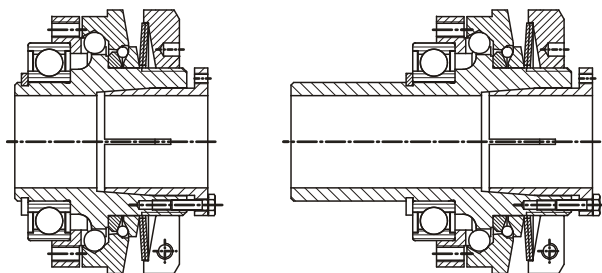

Fig. 3
The EAS[®]-Compact[®] with a long protruding hub (Type 490_ _ 4.1 / Fig. 3) is recommended for extremely wide output elements, or for elements with small diameters. On very small diameters, the output element is screwed together with the clutch pressure flange (2) via a customer-side intermediate flange.